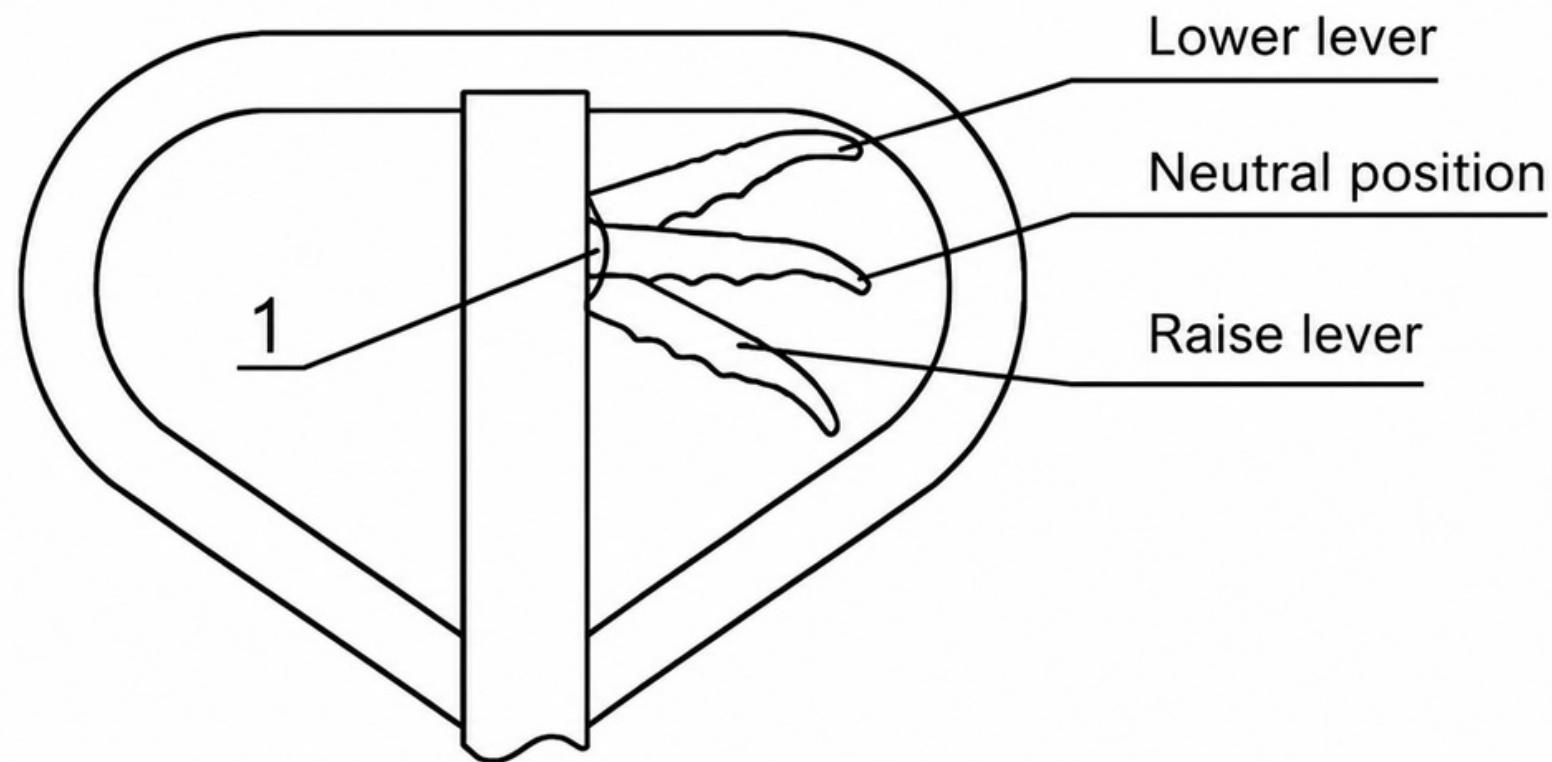

Figure 3-1
After the vehicle assembly is completed, operate the handle to test the system, and move the control lever (1) through different positions to check whether the lifting, neutral, and lowering functions are working properly. **See Figure 3-1.**